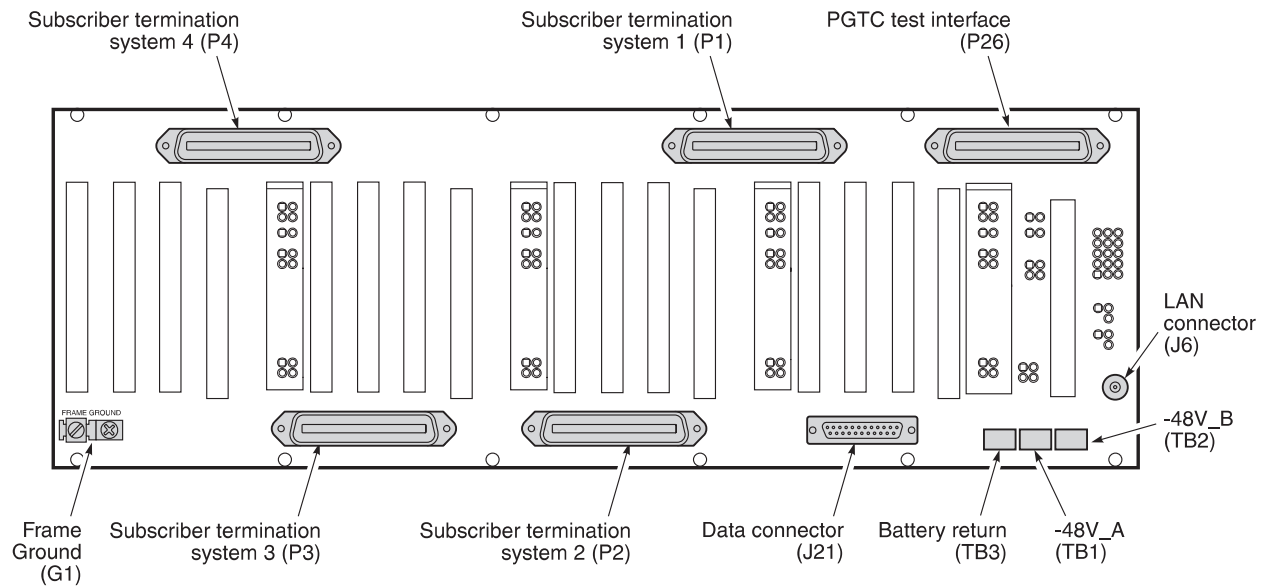

Figure 2. FCS-719 COTS Backplane
4.3 Table 7 lists the FCS-719 backplane connectors (Figure 2) and where each is described in this practice.